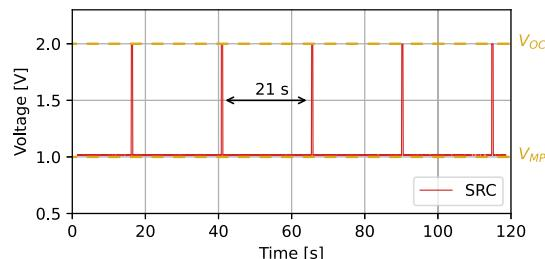

Figure 4: **SRC** voltage behavior while harvesting (**BATT** voltage under V_{OVCH})
- **SRC** is then regulated at V_{MPP} as shown on Figure 4, which is a voltage equal to the open-circuit voltage (V_{OC}) multiplied by the MPPT ratio (here 50%). During the MPPT evaluation, the AEM20941 stops pulling current from **SRC**, letting V_{SRC} rise to V_{OC} .